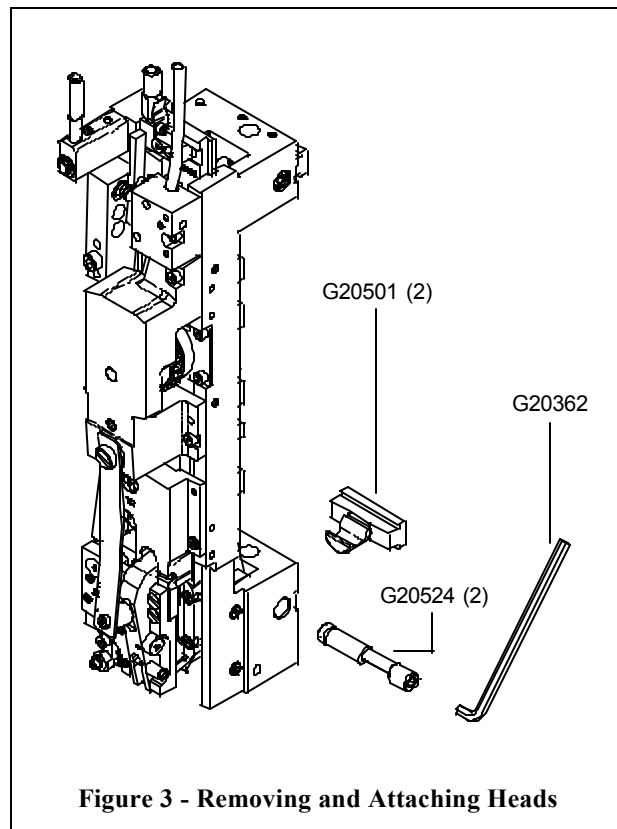

Figure 3 - Removing and Attaching Heads
These G20 Head Models come with two (2) Bonnet Clamp Blocks (G20501) and Bonnet Clamp Eccentrics (G20524) for use on stitchers with a T-Slot mounting rails. Refer to **Figure 3**. Slide the Clamp Blocks into the T-slots on the stitcher, as shown. Align the marks on the Eccentrics with those on the Bonnet. Next, slide the Head onto the Clamp Blocks, bottom one first, and against the stitcher machine. Make sure the Adjustment Block (G20592), Feed Slide